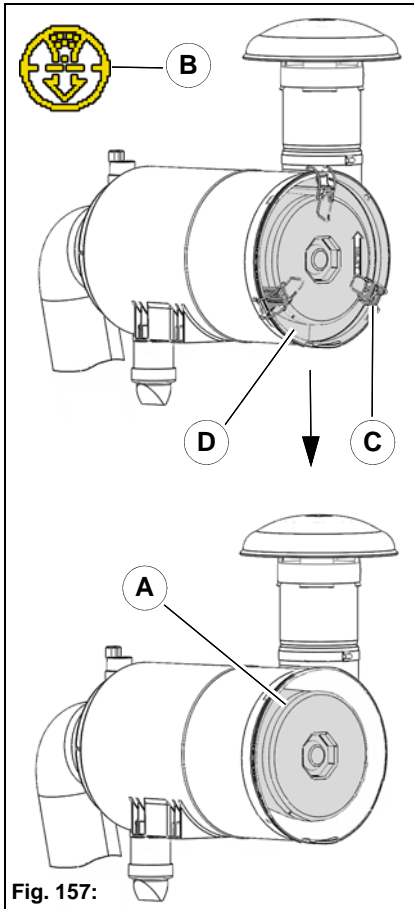

Fig. 157:
If the filter insert **Fig. 157-A** is soiled, the warning symbol **Fig. 157-B** appears in the multifunction display.
3. Open the locks **Fig. 157-C** at the air filter housing and remove and open the flap **Fig. 157-D**.